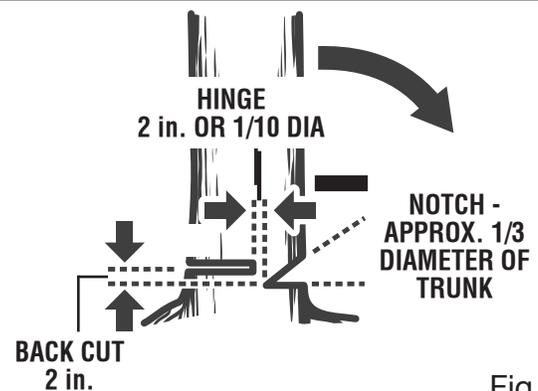

Fig. 16
- **Notched Undercut.** Cut a notch about 1/3 the diameter of the tree, perpendicular to the direction of fall. Make the cuts of the notch so they intersect at a right angle to the line of fall. This notch should be cleaned out to leave a straight line. To keep the weight of the wood off the saw, always make the lower cut of the notch before the upper cut. *See Figure 16.*
- **Felling Backcut.** The backcut is always made level and horizontal, and at a minimum of 2 in. above the horizontal cut of the notch. *See Figures 16 - 17.*
- Never cut through to the notch. Always leave a band of wood between the notch and backcut (approximately 2 in. or 1/10 the diameter of the tree). This is called “hinge” or “hingewood.” It controls the fall of the tree and prevents slipping or twisting or shoot-back of the tree off the stump. See Figures 16 - 17.